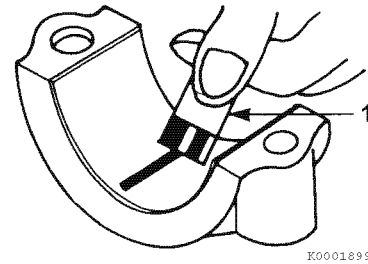

Figure 6-102
- Compare the width of the flattened PLASTIGAGE to the graduation marks on the package (**Figure 6-102, (1)**). The mark that most closely matches the width of the flattened PLASTIGAGE will indicate the bearing oil clearance.